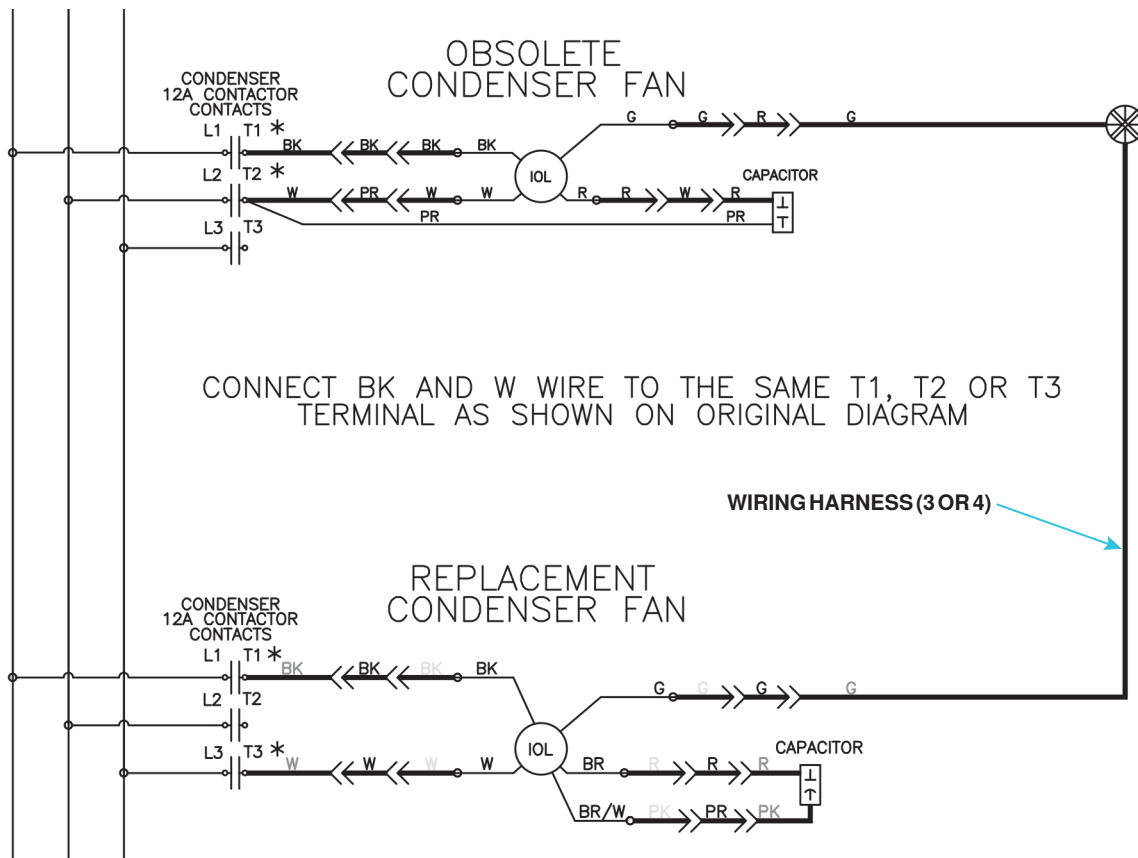

Figure 16. Replacement Condenser Fan Wiring Diagram
- b. Connect wiring harness (3 or 4) leads to condenser contactor contacts. Ensure that wiring connections are in accordance with **Figure 16**.